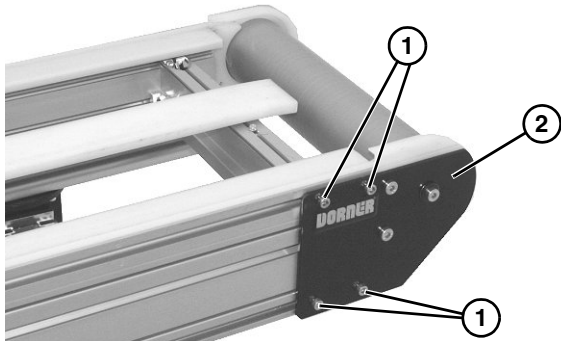

Figure 33
2. On one side of conveyor, loosen the four socket head screws (**Figure 33, item 1**). Repeat on opposite side.
3. Remove idler tail assembly (**Figure 33, item 2**).